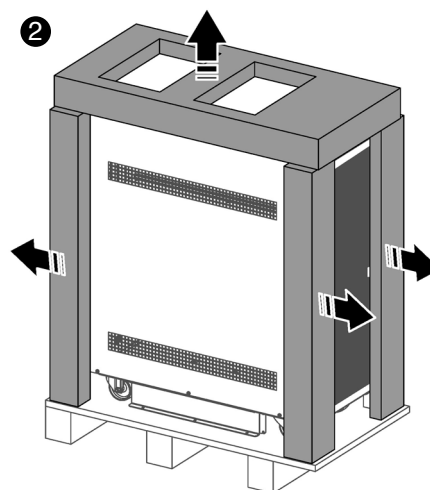

Fig. 23. Removal of the corner pieces and plastic cover.
- ② Remove the corner pieces and the plastic cover (Fig. 23).